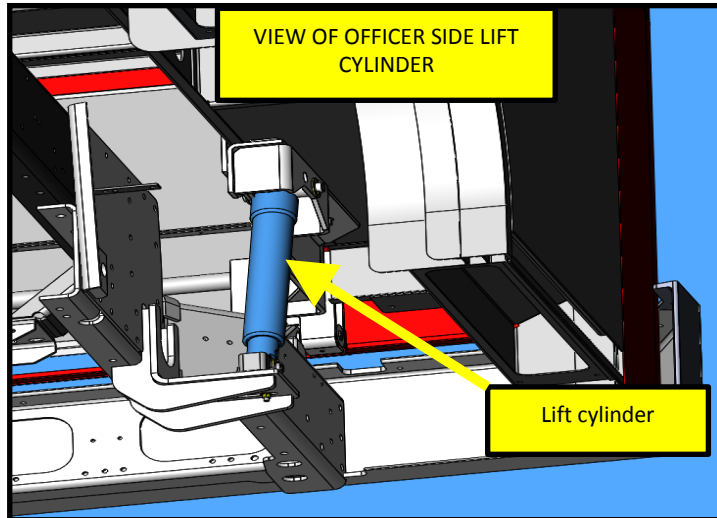

FIG. 13-1
21. Officer side lift cylinder, viewed from underneath. Refer to FIG. 13-1.